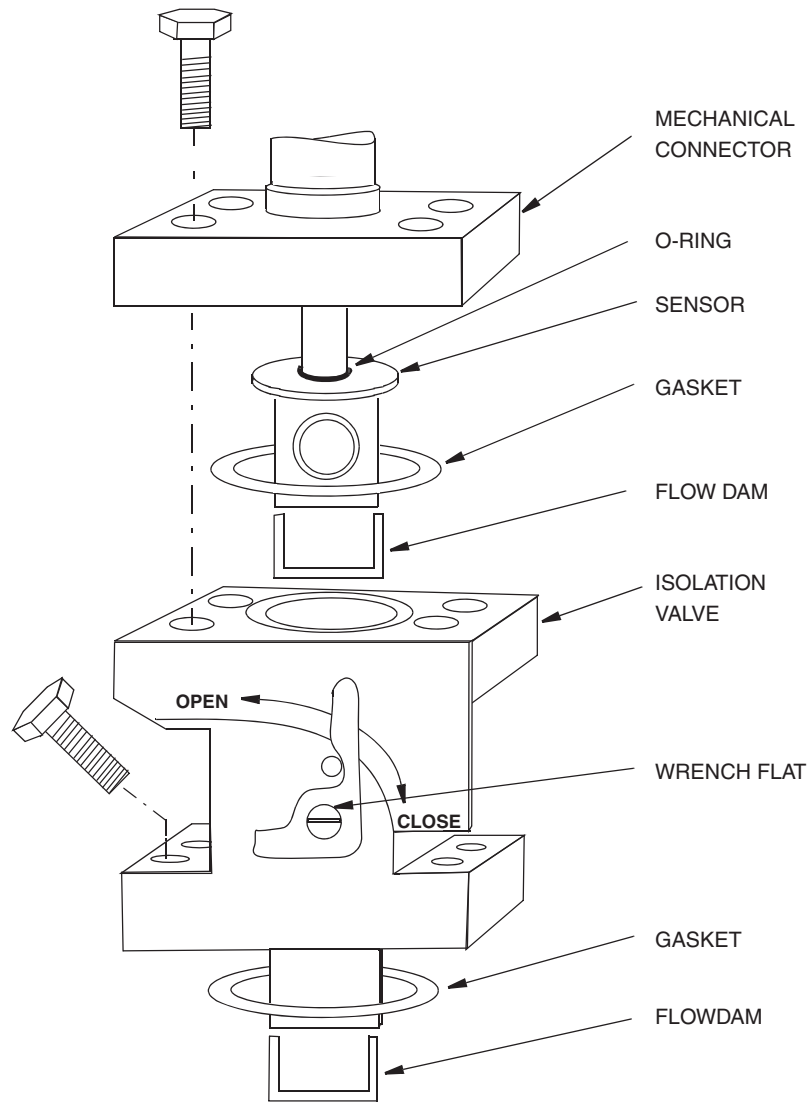
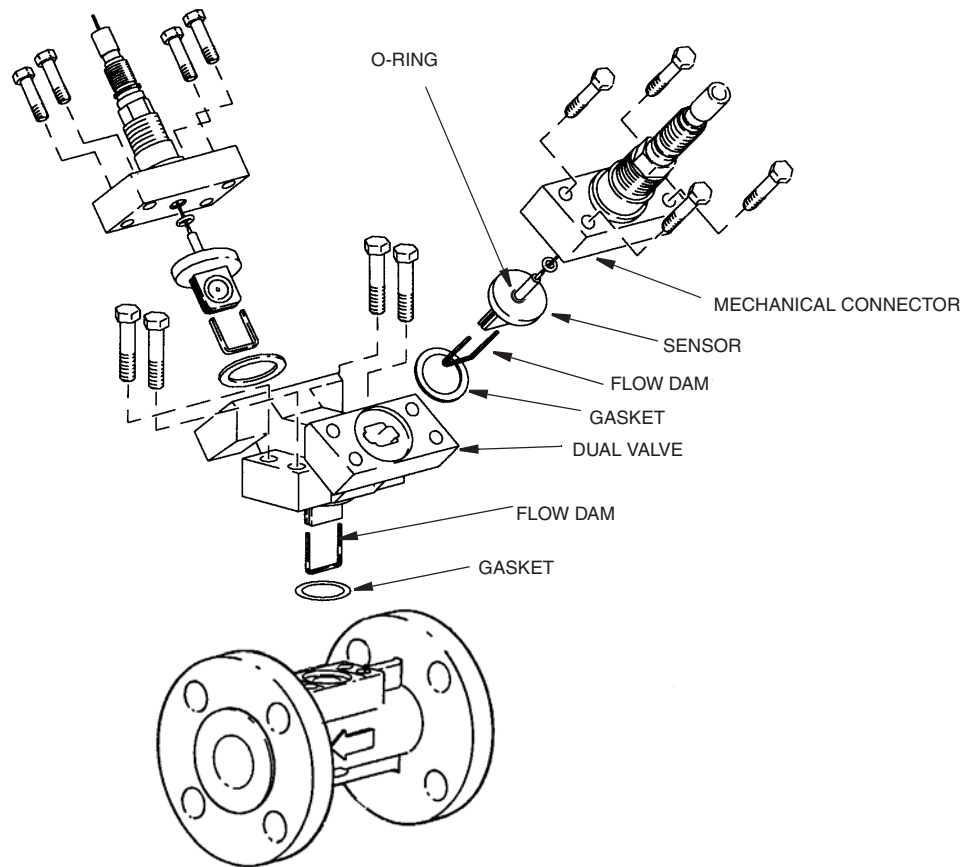

Figure 48. Isolation Valve
Figure 49. Dual Manifold
1. Close the valve. This is a dual port, single ball 1/4-turn valve. Use a wrench on the flat on the valve stem to turn clockwise one quarter turn. See Figure 48.
3. Install a new gasket and flow dam on the lower section of the valve body and assemble the valve into the flowmeter body. Refer to Figure 48 or Figure 49. These are the same gaskets and flow dams used with sensors.